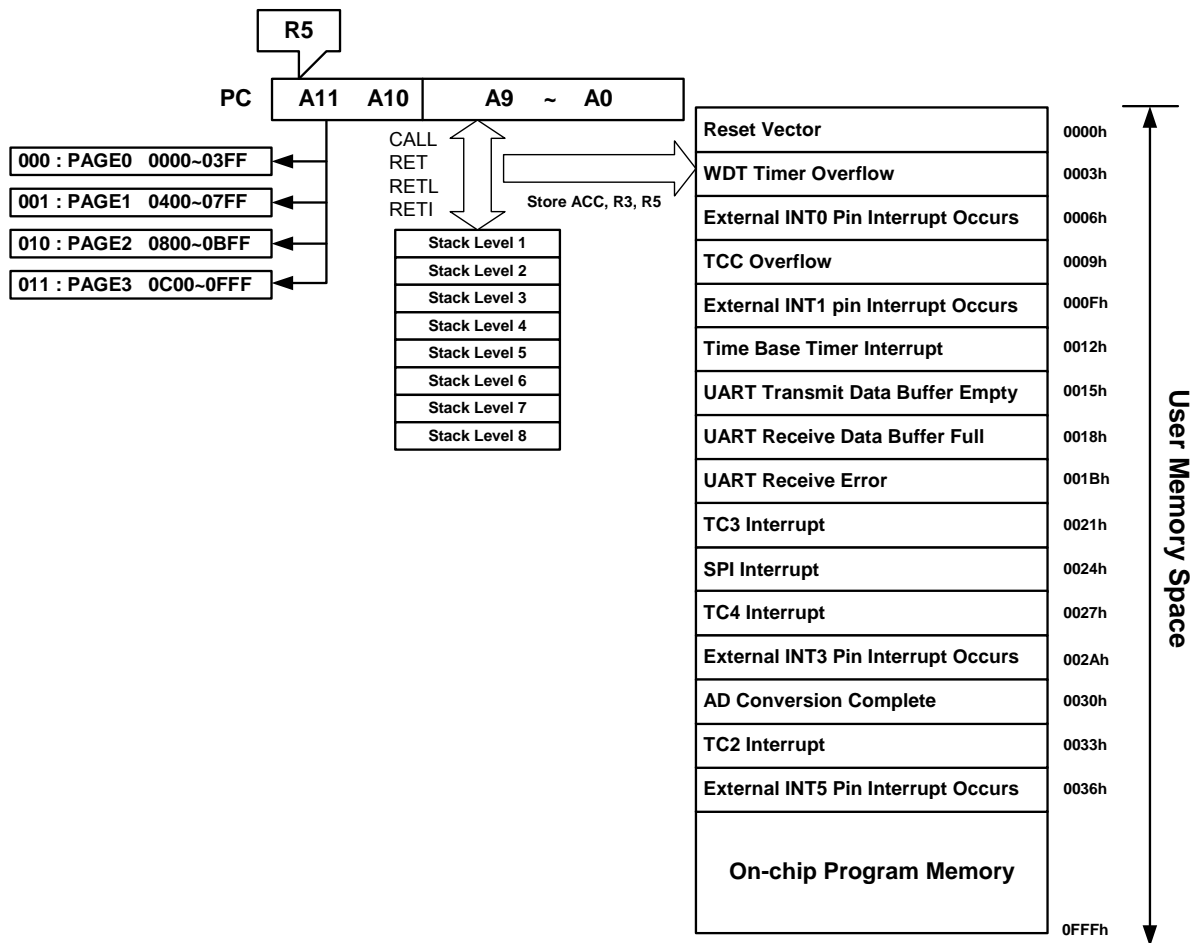

Fig. 5-3 Program Counter Organization
- ◇ Depending on the device type, R2 and hardware stack are 12-bit wide. The structure is depicted in Fig.5-3.